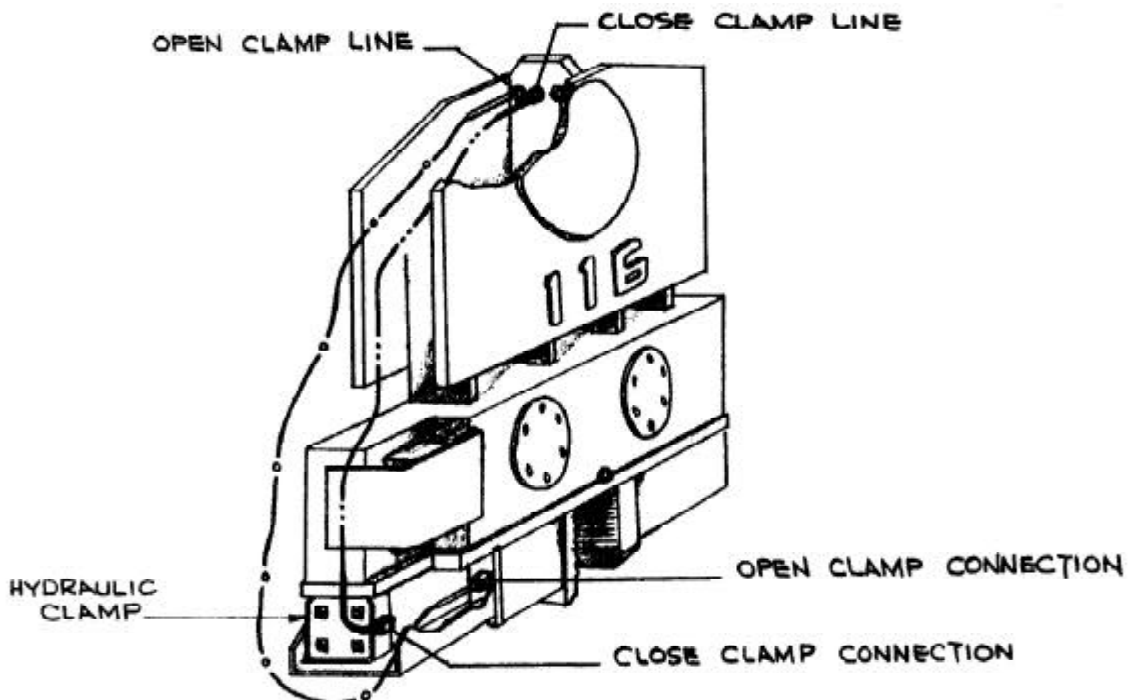

Fig. 3
- b. The vibrator is usually shipped with the hydraulic clamp and hoses in place. If the clamp has been shipped separately, the two hoses connecting the clamp to the vibrator must be connected. The diagram below, (Fig. 3), shows the correct arrangement of the clamp line hoses.
4. With the engine warmed-up and running at 1500 RPM, loosen the close-clamp line at the hydraulic clamp (Fig 3). Turn the clamp switch (OPEN/CLOSE) on the remote control pendant to CLOSE. Wait until fluid flows from the connection at the hydraulic clamp. When fluid flows without any traces of air, tighten the connection.